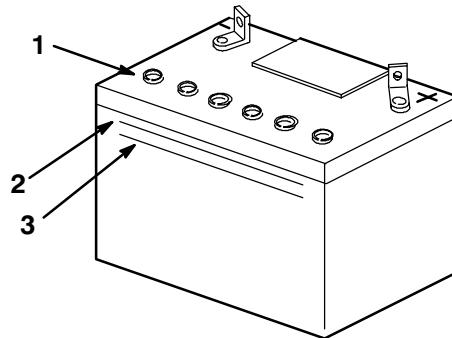

Figure 19
2. Look at the side of the battery. The electrolyte must be up to the Upper line (Fig. 19). Do not allow the electrolyte to fall below the Lower line (Fig. 19).
3. Remove the vent caps from the battery (Fig. 19).
4. Slowly pour distilled water into each battery cell until the electrolyte level is up to the Upper line (Fig. 19) on the battery case.
5. Wait five to ten minutes after filling the battery cells. Add distilled water, if necessary, until the electrolyte level is up to the Upper line (Fig. 19) on the battery case.